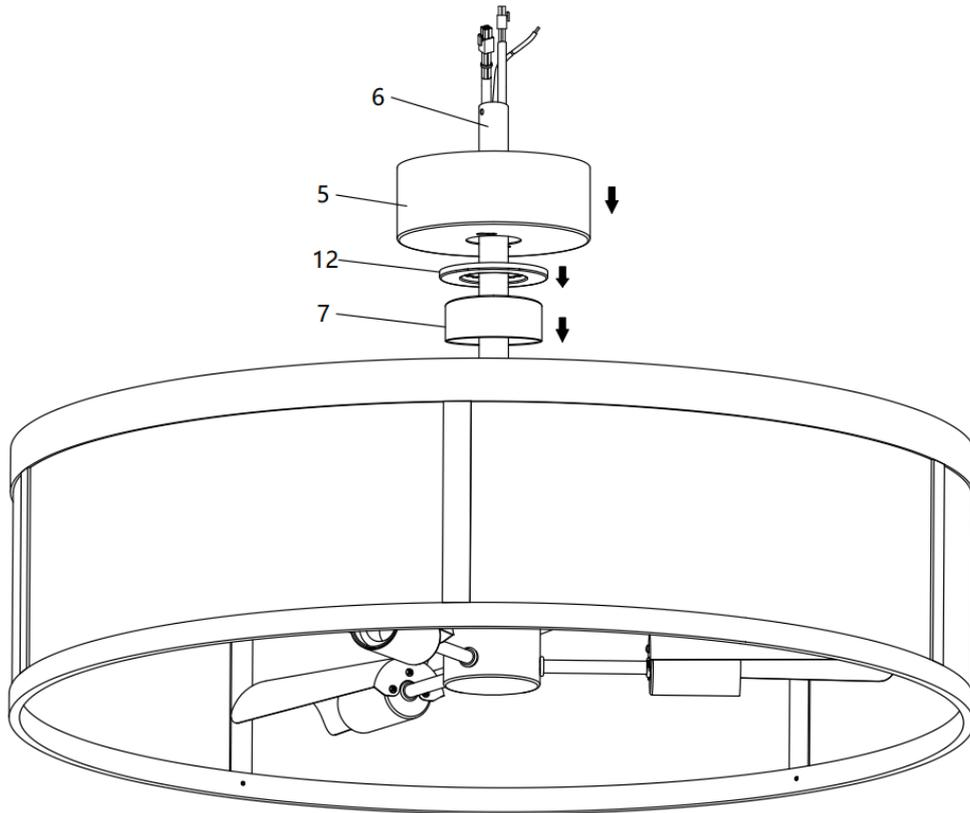
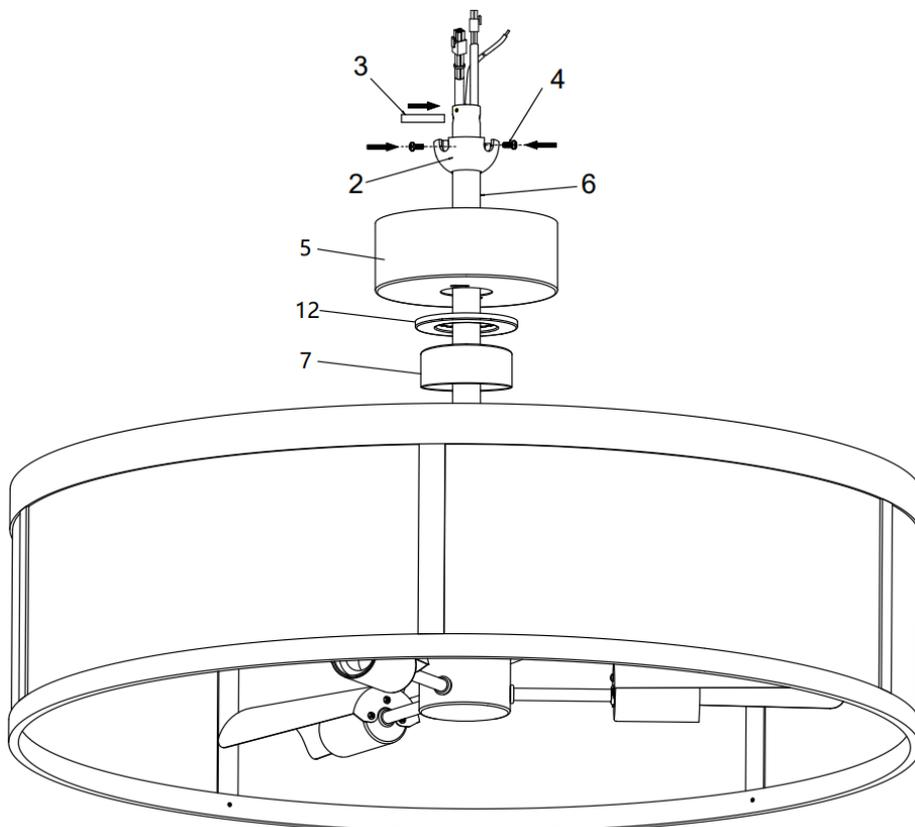

Fig. 5.5
Fig. 5.6
6. Insert the Bolt and pin cover (7) onto the down rod (6) to cover the down rod coupling housing (8). (Fig. 5.5)
7. Insert the canopy (5) & canopy cover (12) over the down rod (6) and install the ball joint (2) and dowel pin (3) back onto the down rod (6) and secure by tightening the set screws (4). (Fig. 5.5 and Fig. 5.6)